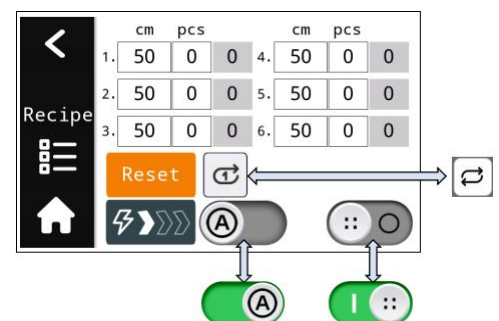

Figure 5
1) Tap  in the homepage to enter this mode. (Figure 5).